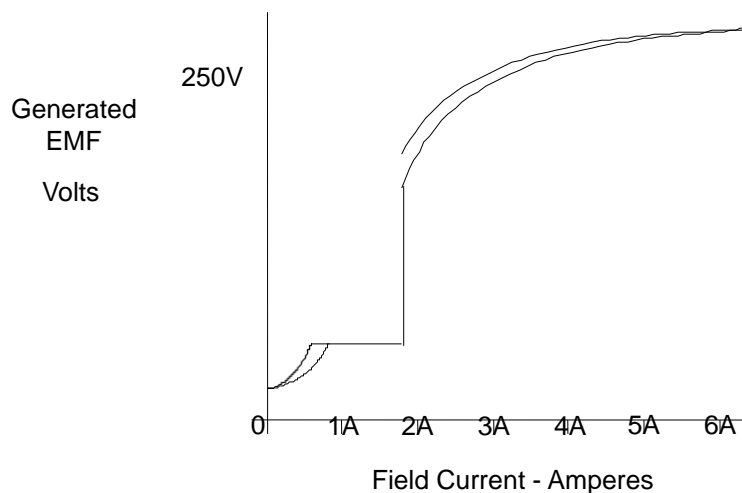

Figure 2
1. Name the curves shown in Figure 2.